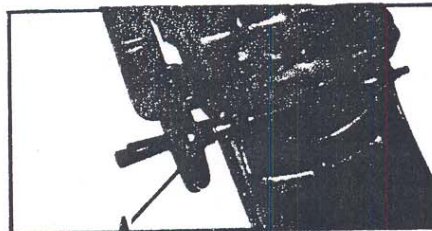

Fig. 1
2. Loosen set screw in handwheel (A) Fig. 1, and remove handwheel (A) from shaft.